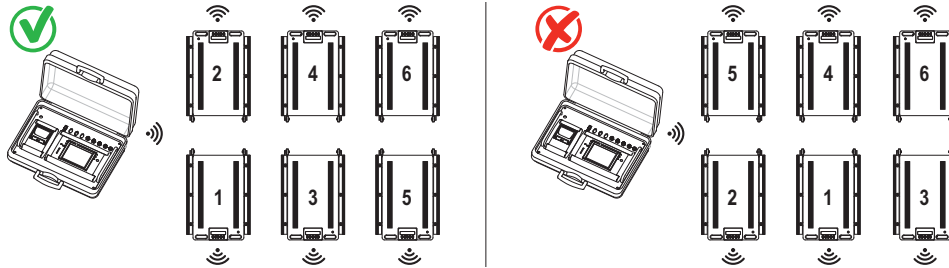

Figure 3-3. Wheel Weigh Pad Positioning
**NOTE:** The first Pad ID number must be 01 and the remaining pad ID numbers must increment in ascending numeric order. Example: 01, 02, 03. Do not configure two pads with the same ID number. See Figure 3-3 on page 14 for number positioning